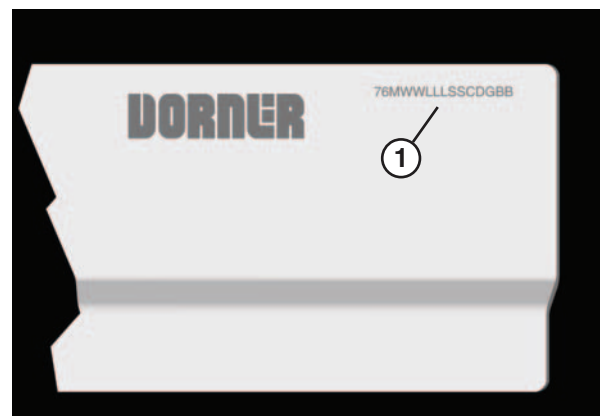

Figure 5
1. Locate the section number sequence etched on each section of frame (**Figure 5, item 1**).